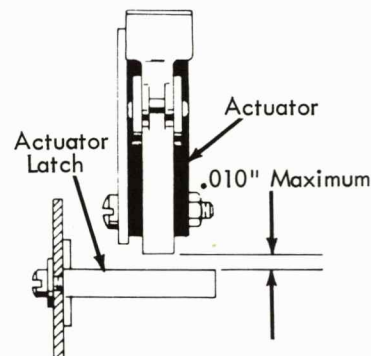

FIGURE 131. Interposer Switch Actuator
- a. So that it will clear the bottom of the interposer switch actuator by a maximum of .010" when the bottom of the actuator is moving toward the front of the machine (Fig. 131).